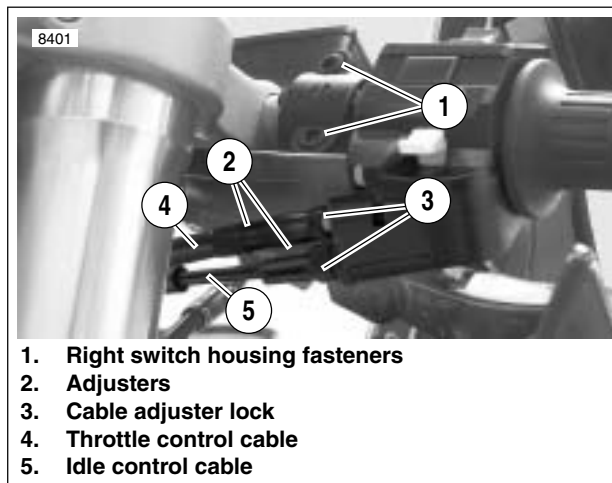
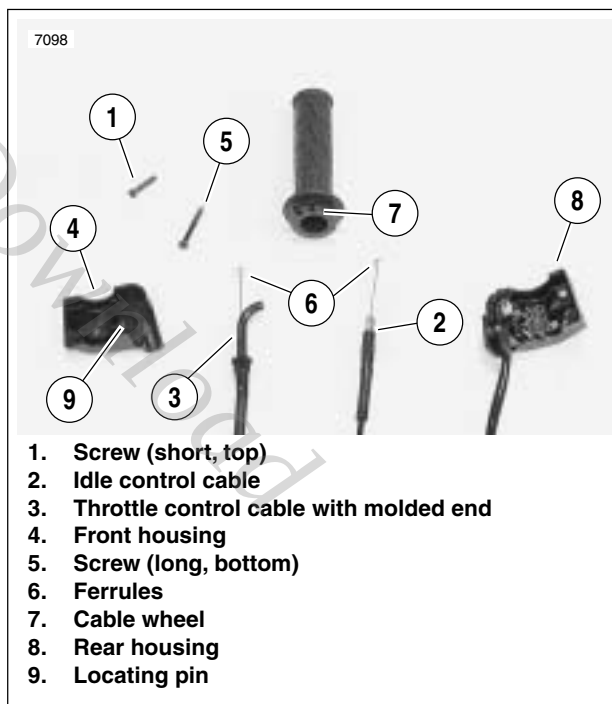

Figure 2-92. Throttle Control Cables
Figure 2-93. Cable Connections
1. See Figure 2-92. Loosen cable adjuster lock (thick disc) (3) on each cable.
2. Turn adjusters (thin disc) (2) in direction which will shorten cable housings to minimum length.
3. Remove fasteners (1) on right switch housing and separate housing from handlebar.
4. See Figure 2-93. Remove cables (2, 3) from notches in front housing (4).
5. Remove ferrules (6) from throttle (7).
3. Install throttle grip and position ferrules (6) into cable wheel (7).
7. See Figure 2-92. Attach rear switch housing and position housings on right handlebar by engaging locating pin on front housing with hole in handlebar. Attach housings with two fasteners, installing longer fastener on bottom. Tighten to 25-33 **in-lbs** (3-4 Nm).